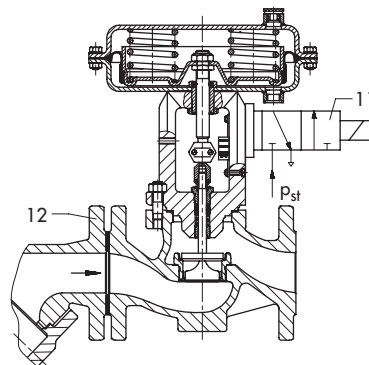
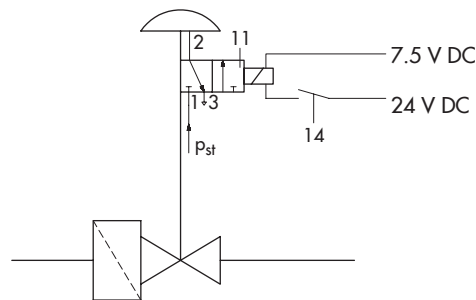
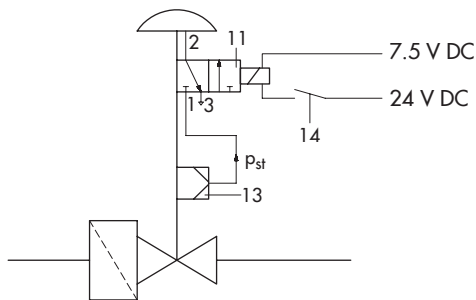

Fig. 3: Type 3241-1-Oil
Fig. 5: Functional diagram showing version without positioner
Fig. 6: Functional diagram showing version with positioner
The signal pressure p_{st} acts on the pilot valve (11), the coil of which is connected to the safety interlock circuit (switch 14 in Fig. 5 and Fig. 6) of the furnace plant. During operation, the coil is energized and the signal pressure p_{st} at port 1 (Fig. 5 and Fig. 6) acts on the diaphragm. In the event of a malfunction or power supply failure, the pilot valve is de-energized and the signal pressure is vented over port 3. The force of the actuator springs closes the control valve in less than one second.
Legend for Fig. 3 to Fig. 6: